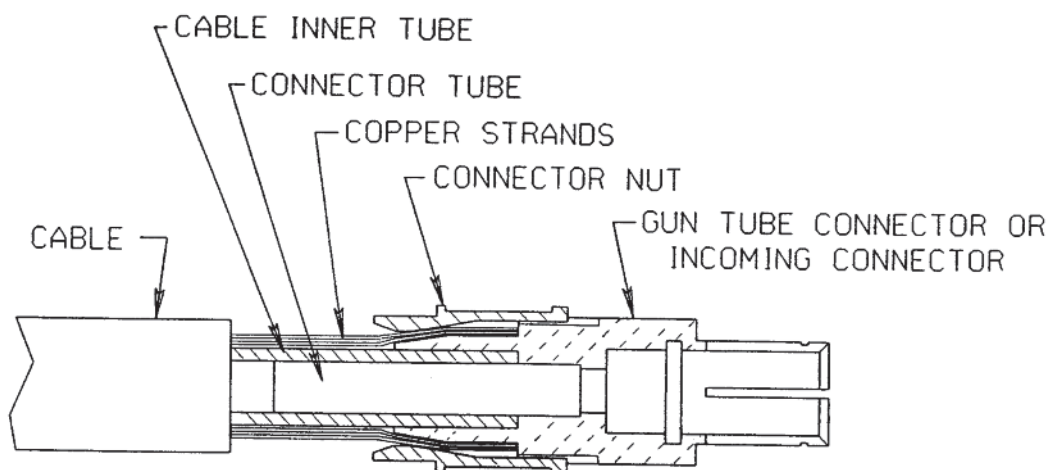

FIGURE E.3
- g) Check that the cable boot and both halves of the strain relief are on the cable. Slip the connector nut over the copper strands with the thread end out. Orient the gun tube connector so the machined flat is on the same side of the cable as the red and white control leads. Assemble the gun tube connector to the cable by forcing the steel tube of the connector into the inside diameter of the cable inner tube until the copper strands are butted against the gun tube connector shoulder. Keeping the copper strands against the shoulder, pull the connector nut over the copper strands, engage the gun tube connector threads, and tighten in place. Refer to Figure E.3.
- h) Check that the cable boot, boot nut, cable handle, strain relief housing and collar nut are on the cable. Slip the connector nut over the copper strands with the threaded end out. Orient the connector assembly so the red and white control leads will have the straightest possible routings to the sockets on the back side of the connector. Assemble the incoming connector to the cable by forcing the steel tube of the connector into the inside diameter of the cable inner tube until the copper strands are butted against the incoming connector shoulder. Keeping the copper strands against the shoulder, pull the connector nut over the copper strands, engage the incoming connector threads, and tighten in place. Refer to Figure E.3.